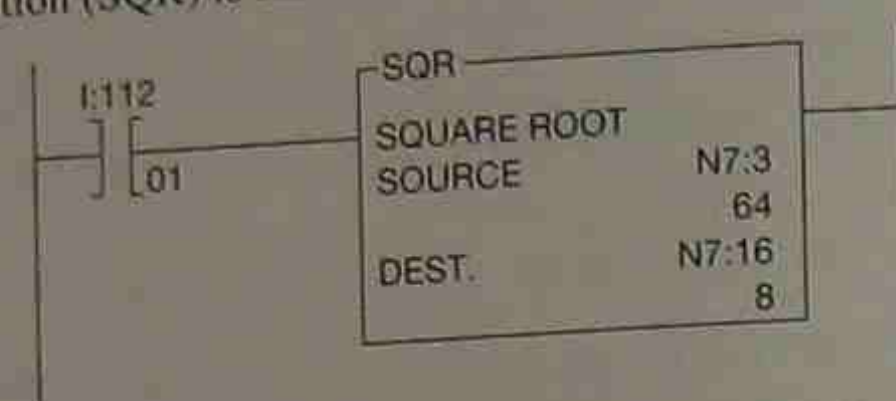

Figure 15-12 Example of the Square Root (SQR) Instruction
The Square Root instruction (SQR) is shown in Figure 15-12.
When the logic that precedes the SQR instruction is true, the square root of the Source value is transferred into the destination word. In the example in Figure 15-12, the square root of the source address, N7:3 (64), which is 8, is placed into destination word 16 of the N7 file.